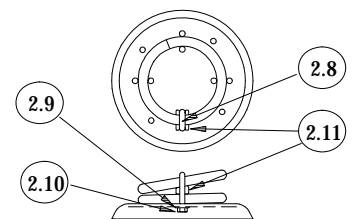

Fig 7
- i) Place U-bolt (2.8) over the spring approximately one coil up from the base. Locate the clamping block (2.11) over the threaded ends of the U-bolt, ensuring that the taper and the curved face of the block are the correct way round. "Wind" the bolt and clamping block down the spring until it is pinched between the spring coils and over the holes in the base mounting. Place the threads in the holes and secure in position with M12 nuts (2.9) and washers (2.10). Do not tighten (Fig 7).